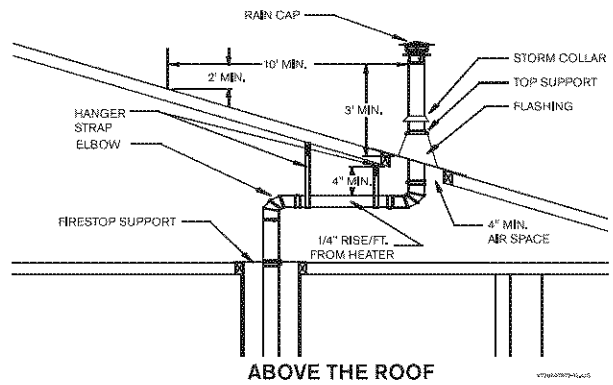

Fig. 16 Vertical vent terminations clearances (Combustion air piping not shown)
- ▶ The exhaust vent must terminate above the roof surface with an approved vent cap not less than 3 feet (0.6 m) above the highest point where it passes through the roof and at least 2 feet (0.6 m) higher than any vertical wall or similar obstruction within 10 feet (3.1 m). See Fig. 16 and Table 5.